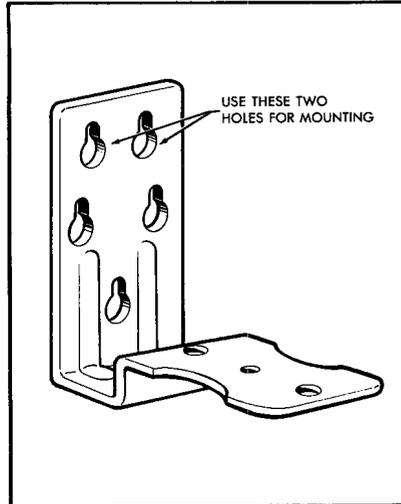

FIGURE 2. 2000 Type Protector Mounting Bracket
5.02 Protector: Hold protector against siding and mark location using a pencil or marker. (Locate protector as close as possible to lap joint.) Follow procedures for drilling mounting holes as outlined in paragraphs 4.03 and 4.04. Use a spacer of nonrusting type material to get adequate clearance for cover if necessary. When using fused type protection, use the upper two mounting holes in the mounting bracket. See Figure 2.